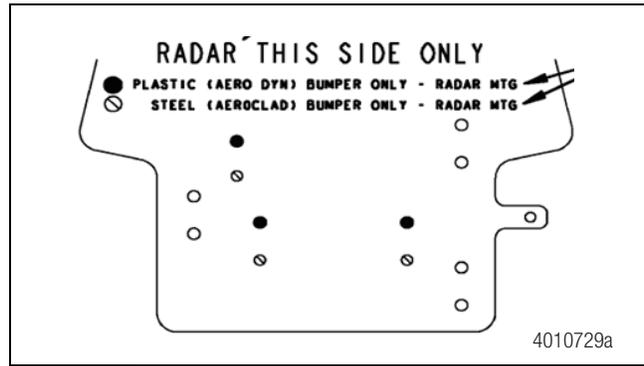

Figure 3
- Verify the mounting position of the radar sensor on the bracket. Figure 3 shows which holes are used for mounting the radar unit depending on what type of bumper is on the vehicle. (PLASTIC BUMPER ONLY or STEEL BUMPER ONLY). Figure 3.